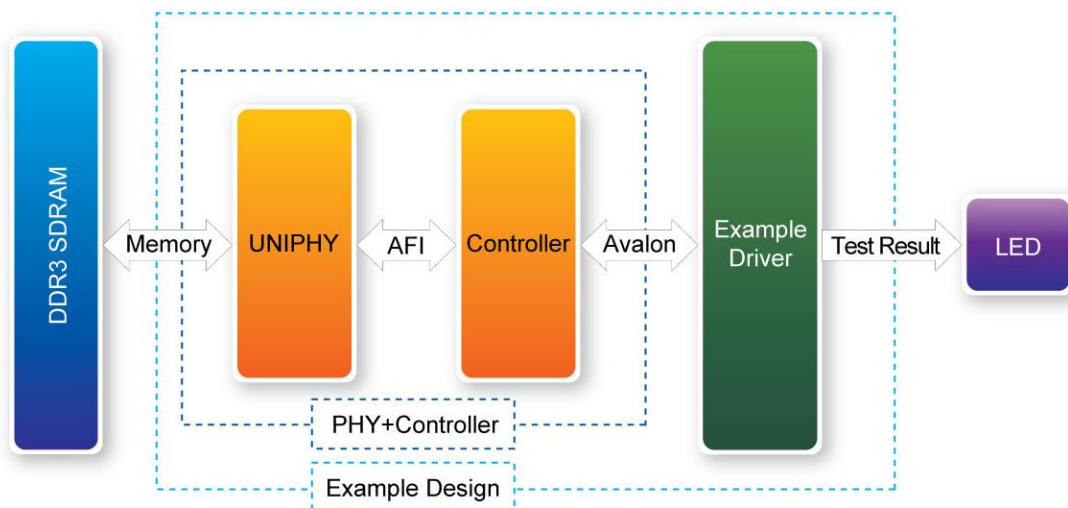

Figure 5-10 Block Diagram of the DDR3 4G Demonstration
- Make sure DDR3-SDRAM SODIMM (4 GB) is installed on your TR4 board, as shown in Figure 5-10.